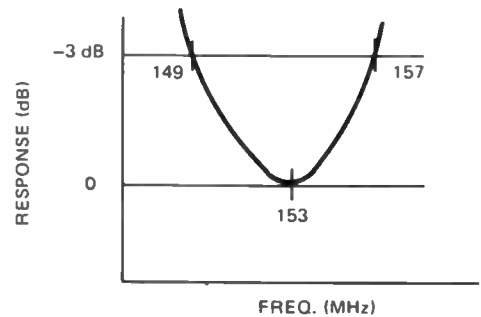

Figure 5. VHF HIGH RF CHARACTERISTIC
- Step 2: (VHF HIGH) Adjust T1, T2 and T3 of RF Section for maximum output and best curve symmetry as shown in Figure 5.